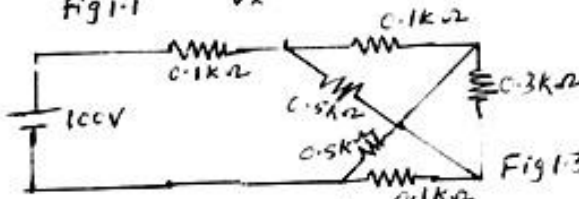

Fig 1.3
7. Determine the current supplied by the battery in fig.1.3.